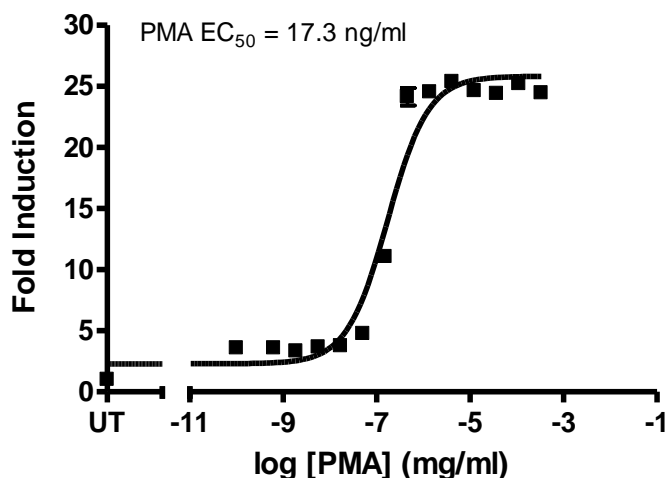
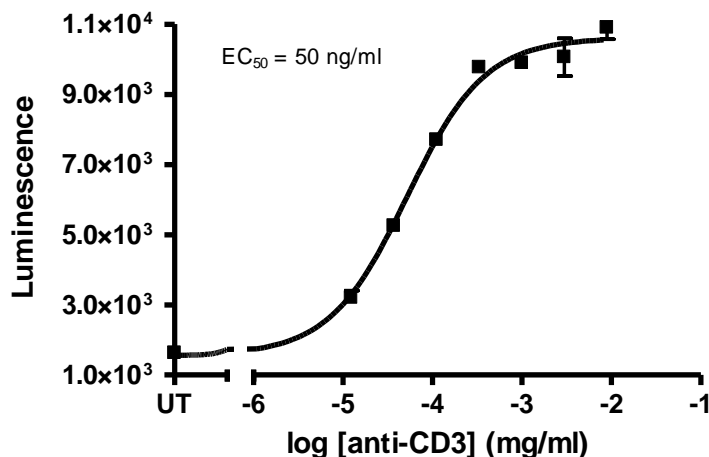
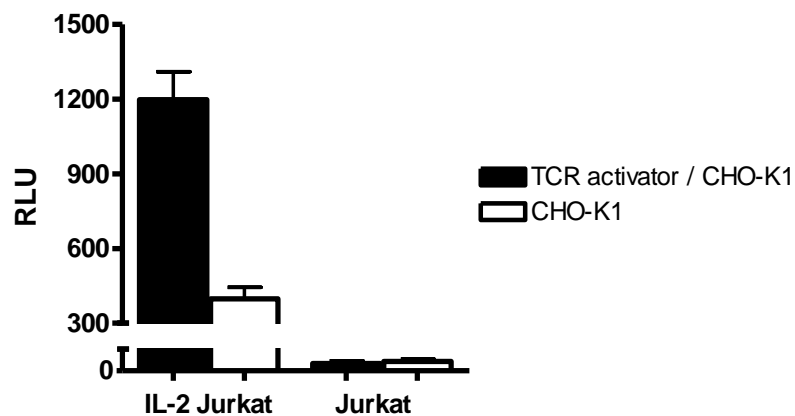

Figure 2. Response to PMA and Ionomycin Stimulation.
Figure 3. Response to Anti-human CD3 Antibody.
Figure 4. Response to TCR Activator - CHO Recombinant Cells.
The IL-2-luciferase Jurkat reporter cell line is suitable for monitoring the transcription activity of IL-2 in response to stimulants, and establishing cell-based screens for inhibitors that target specific IL-2 stimulating molecules. This reporter cell line has been tested and validated using stimuli including a combination of phorbol 12-myristate 13-acetate (PMA) with ionomycin (**Figure 2**), anti-human CD3 antibody (**Figure 3**) and TCR activator / CHO-K1 cell line (**Figure 4**). This cell line is sensitive to stimuli at $2 - 4 \times 10^5$ cells/ ml in 100 µl of serum free medium in a 96 well plate. For optimal sensitivity, we recommend using the provided protocols.
3. Immediately treat 100 μ l of cells with 10 μ l of working solution of PMA and ionomycin for 24 hours at 37°C with 5% CO₂ (**Figure 2**). We used a starting concentration at 1 μ g /ml for PMA and did a 3-fold serial dilution in PBS containing a constant level of ionomycin at 500 ng/ml (final concentration).
2. The next day, immediately treat cells with anti-CD3 antibody for 24 hours at 37°C with 5% CO₂ (**Figure 3**). We used a starting concentration at 10 μ g/ml, with subsequent three fold serial dilutions.
2. The next day, remove medium from each well, and add $2 - 4 \times 10^4$ IL-2 Jurkat reporter cells (100 μ l per well) in serum free RPMI for ~24 hours at 37°C with 5% CO₂ (**Figure 4**).